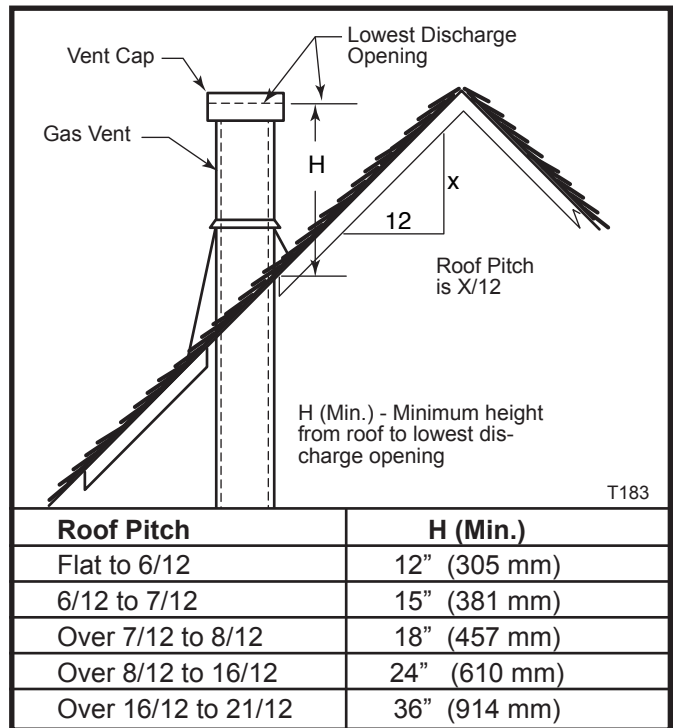

Fig. 36 Vertical termination location.
- The minimum height of the vent above the highest point of penetration through the roof is 2' (610 mm). (Fig. 36)